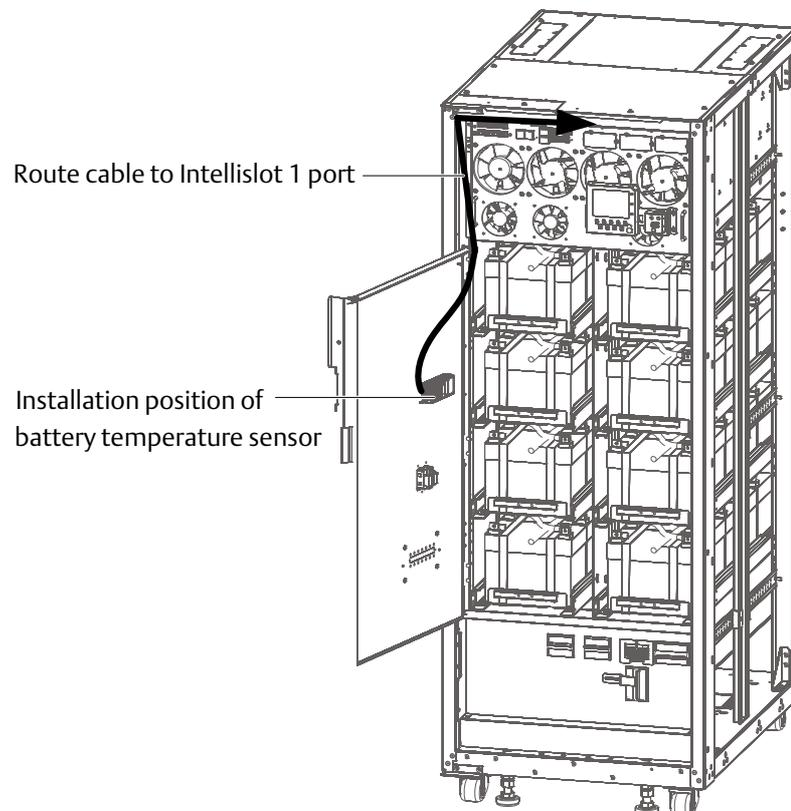

Figure 8-14 Installing and connecting the battery temperature sensor
4. Remove the right side panel of the cabinet, position the battery temperature sensor at the rear of battery tray 1, and then insert the UF-RS485 card into the Intellislot port 1. Refer to Figure 8-14 for more information on installing and connecting the battery temperature sensor.
5. Route the cables as indicated in Figure 8-14. Note that the cables should be routed separately from the power cables, to avoid EMI.